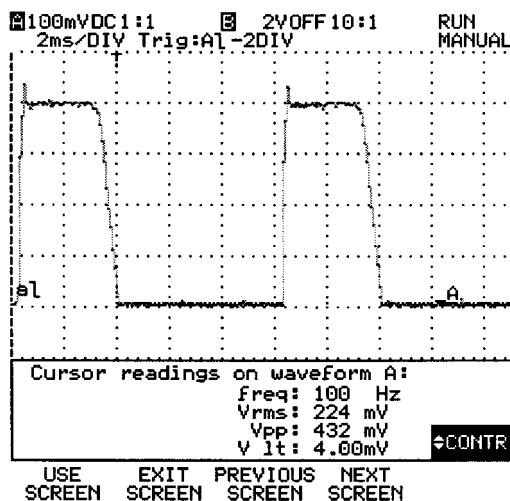

Figure1 Waveform $t=10ms$, $U=400mV$
- Adjust potentiometer P6001 until the maximum of the signal equals to 400mV. see figure 1 for waveform with the Sonopuls 464 unit switched off,